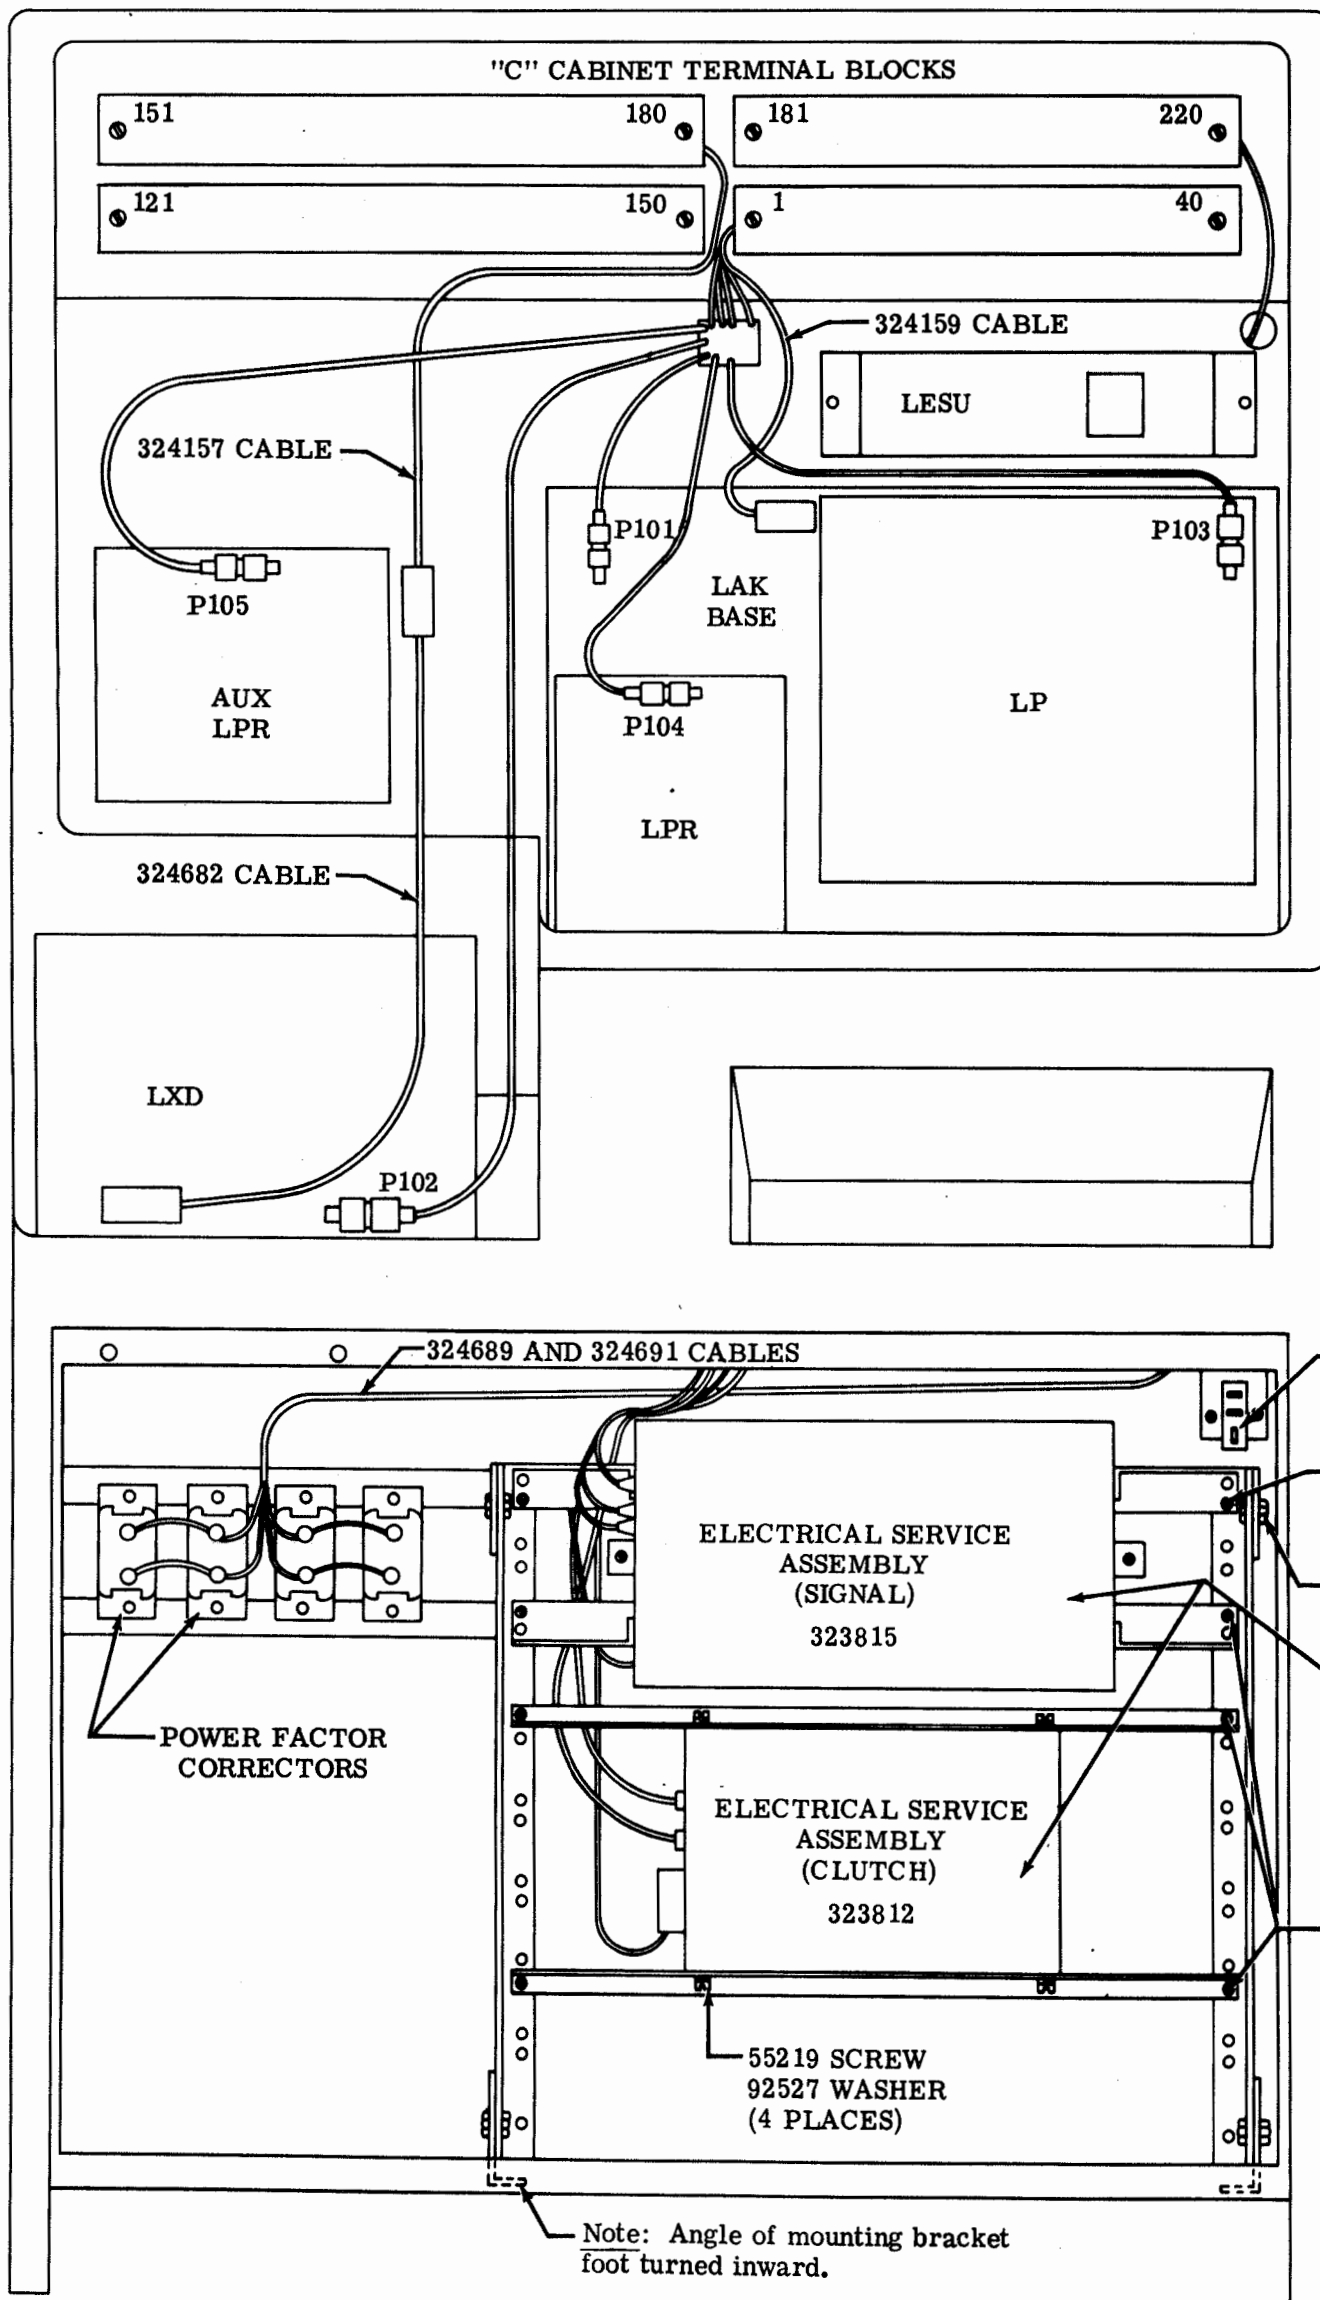

Figure 15 - 323808 Modification Kit for Location of Cables, ESA's and Other Components in Set
3. 122 Connect the signal cables to the LXD, LAK, AUX LPR, LAK LPR, and LP connectors shown in Figure 15.